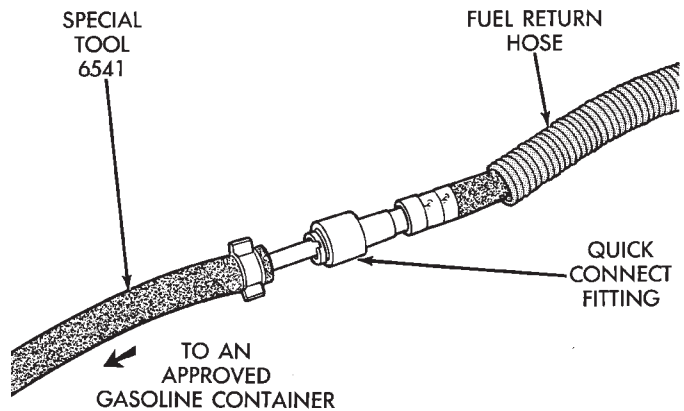

Fig. 7 Fuel Return Connection
- If pressure is still above specifications, remove fuel return hose from chassis fuel tubes (at engine). Attach Fuel Pressure Test Connect Adapter 6541 to the fuel return hose and place other end of hose in clean container (Fig. 7). Repeat test. If pressure is now correct, check for restricted fuel return line. If no change is observed, replace fuel pressure regulator.
- If pressure is still above specifications, remove fuel return hose from chassis fuel tubes (at engine). Attach Fuel Pressure Test Connect Adapter 6541 to the fuel return hose and place other end of hose in clean approved gasoline container (Fig. 7). Repeat test. If pressure is now correct, check for restricted fuel return line. If no change is observed, replace fuel pressure regulator.